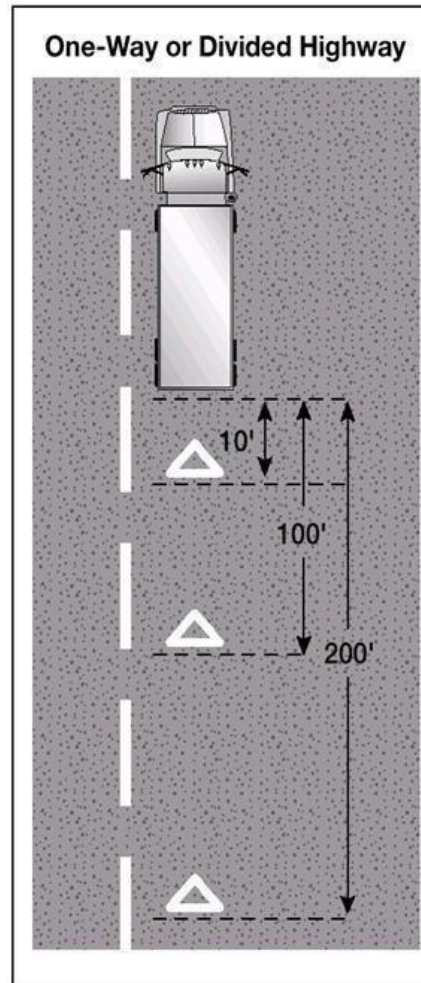

Figure 2.8
1. If you must stop on or by a one-way or divided highway, place warning devices 10 feet, 100 feet, and 200 feet toward the approaching traffic. See Figure 2.8.